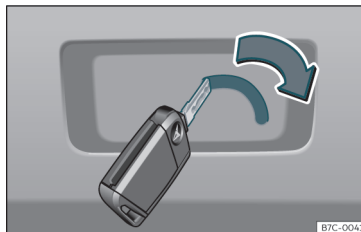

Fig. 8 Luggage compartment: manual release.
- To unlock the rear lid, push the lever in the direction of the arrow using the key blade » **Fig. 8**.